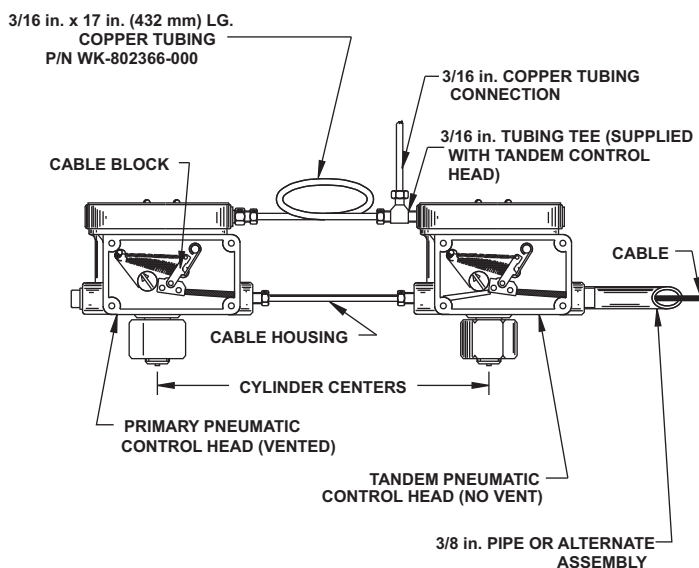

Figure 4-9. Tandem Pneumatic Control Head
5. If a tandem pneumatic control head is required, both control heads must be connected using 3/16 in. tubing (P/N WK-802366-000). See Figure 4-9.